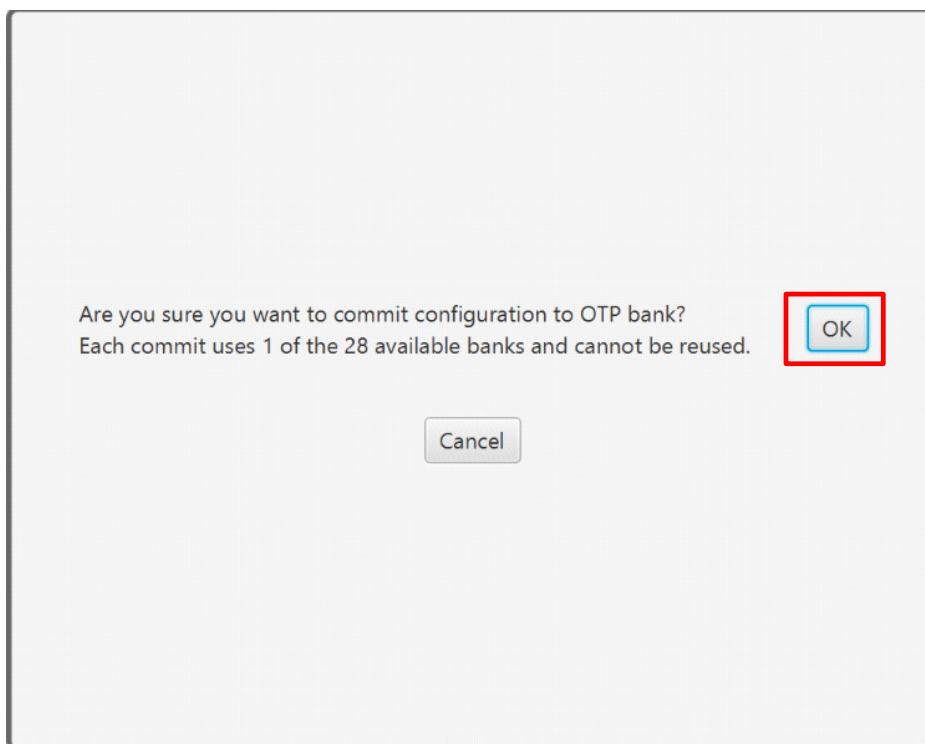

Figure 8. Confirmation to Use 1 of the 28 Available OTP Banks to Write to NVM
13. A window pops up (see Figure 8) for the user to confirm the use of 1 of the 28 available OTP banks to write to the NVM. Click **OK**.